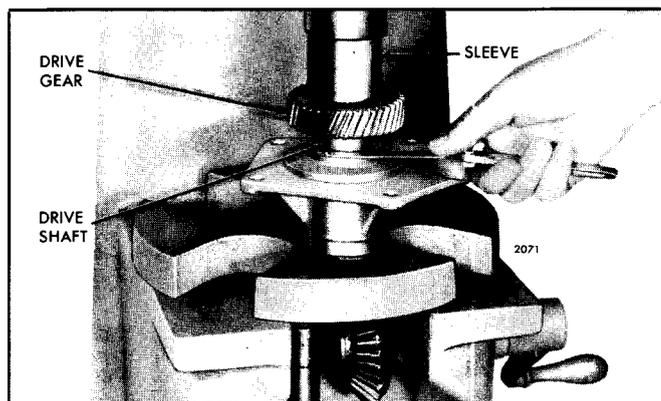

Fig. 5 - Pressing Blower Drive Gear On Shaft
- Position the gear on the shaft so the keyway in the gear is in alignment with the key in the shaft. Then, place a sleeve on the gear and press the gear on the shaft until the clearance between the gear and support is .004" to .012" (Fig. 5).